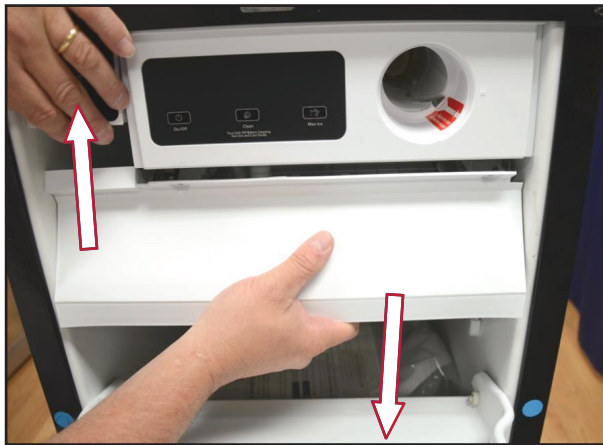

FIGURE 9
5. Lift up the ice scoop storage compartment as you pull out on the bottom of the cover. See *Figure 9*.